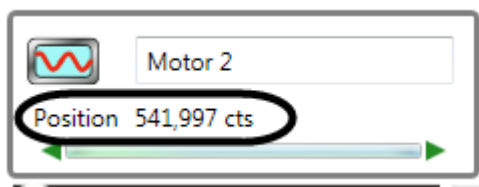

Figure 32
5. Confirm that the position number at the top of the **Motor Editing Pane** is increasing as the motor moves forward (Figure 32).